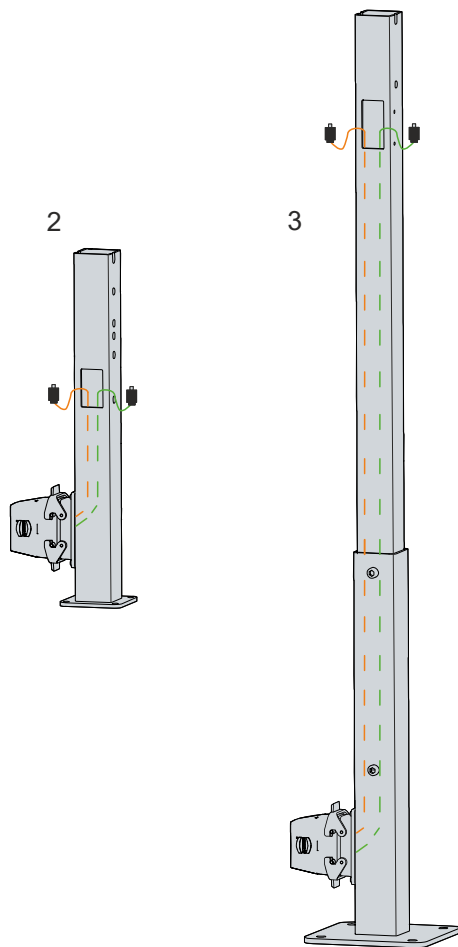

Fig. 21: Wiring
If you mount the panel PC on the C9900-M803 (2) or C9900-M804 (3) mounting arm, the wiring of the power supply and Ethernet passes through the mounting arms. At the foot of the mounting arms is the HAN connection socket with the HAN plug. From there, the power cables and Ethernet cables are fed through the mounting arms upwards to the opening (see Figure 21). Plug the plugs protruding out of the mounting arm into the PC.